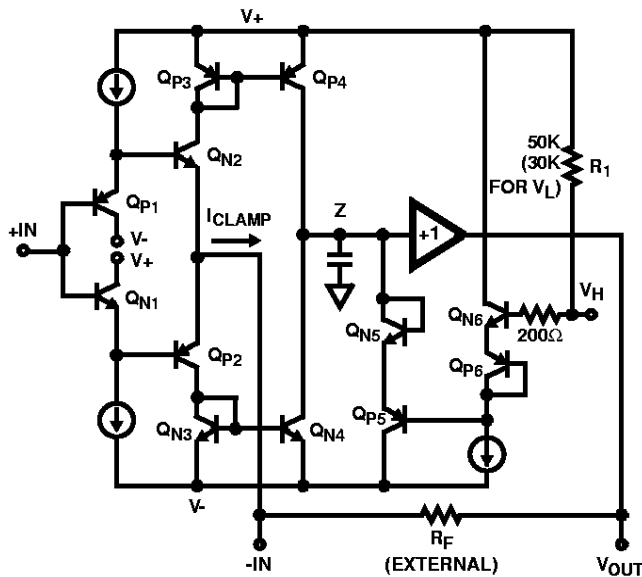

FIGURE 1. HS-1135RH SIMPLIFIED V_H CLAMP CIRCUITRY
Figure 1 shows a simplified schematic of the HS-1135RH input stage, and the high clamp (V_H) circuitry. As with all current feedback amplifiers, there is a unity gain buffer ($Q_{X1} - Q_{X2}$) between the positive and negative inputs. This buffer forces $-IN$ to track $+IN$, and sets up a slewing current of $(V_{IN} - V_{OUT})/R_F$. This current is mirrored onto the high impedance node (Z) by $Q_{X3} - Q_{X4}$, where it is converted to a voltage and fed to the output via another unity gain buffer. If no clamping is utilized, the high impedance node may swing within the limits defined by Q_{P4} and Q_{N4} . Note that when the output reaches its quiescent value, the current flowing through $-IN$ is reduced to only that small current ($-I_{BIAS}$) required to keep the output at the final voltage.
The clamped output voltage will not be exactly equal to the voltage applied to V_H or V_L . Offset errors, mostly due to V_{BE} mismatches, necessitate a clamp accuracy parameter which is found in the device specifications. Clamp accuracy is a function of the clamping conditions. Referring again to Figure 1, it can be seen that one component of clamp accuracy is the V_{BE} mismatch between the Q_{X6} transistors, and the Q_{X5} transistors. If the transistors always ran at the same current level there would be no V_{BE} mismatch, and no contribution to the inaccuracy. The Q_{X6} transistors are biased at a constant current, but as described earlier, the current through Q_{X5} is equivalent to I_{CLAMP} . V_{BE} increases as I_{CLAMP} increases, causing the clamped output voltage to increase as well. I_{CLAMP} is a function of the overdrive level $(V_{IN} - V_{OUTCLAMPED})$ and R_F , so clamp accuracy degrades as the overdrive increases, or as R_F decreases. As an example, the specified accuracy of $\pm 60mV$ for a 2X overdrive with $R_F = 510\Omega$ degrades to $\pm 220mV$ for $R_F = 240\Omega$ at the same overdrive, or to $\pm 250mV$ for a 3X overdrive with $R_F = 510\Omega$.